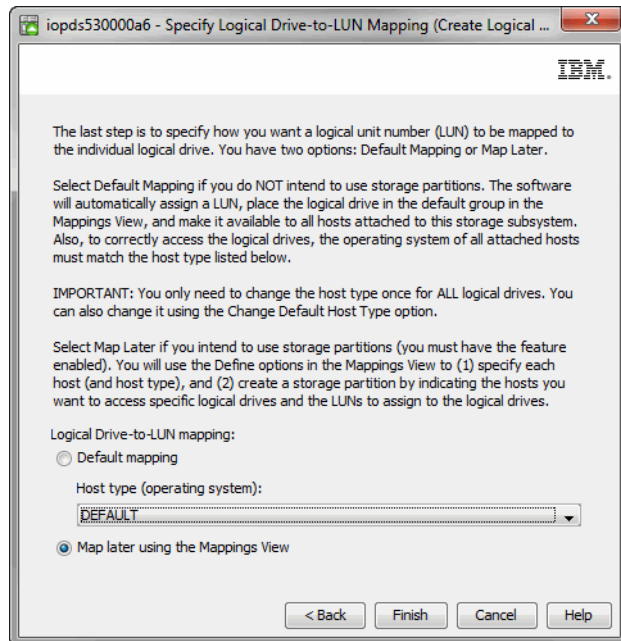

Figure 2-56 Default mapping
4. On the Specify Logical Drive-to-LUN Mapping window, we pick **Map** later using the mappings view, because the hosts are not yet created on the storage subsystem, as shown in Figure 2-56.